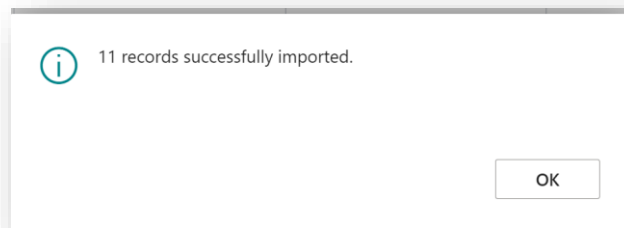

Figure 4-4
4. You will then receive a message like the one below to confirm that the default setup has imported. Choose **OK** (Figure 4-4).